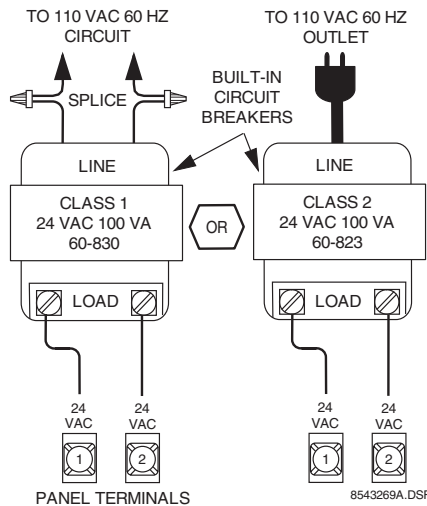

Figure 20. Wiring an AC Power Transformer to the Panel
4. Wire the AC power transformer to the panel as shown in Figure 20.